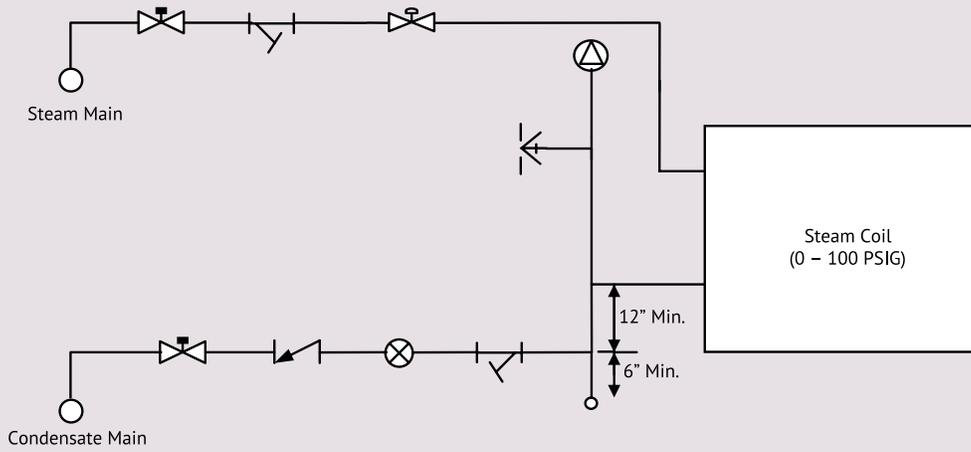

FIGURE 1. PIPING FOR STEAM COIL
When connecting the piping to the coil, the supply line typically goes to the lower connection on the leaving air side for water coils. Check the coil connection hand designation to make sure it matches the system air flow. Coils should be installed with heat transfer medium counter flow to the air flow for optimum heat transfer. (refrigerant and water coils) For standard steam and condenser coils, the supply connection is typically the upper connection on the leaving air side. Refer to figures 1 and 2 on page (4) for recommended piping diagrams.